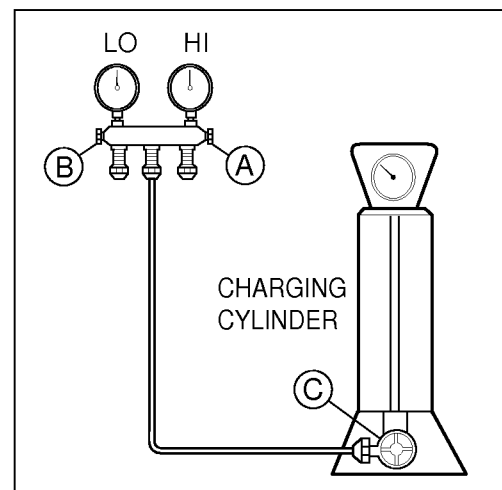

Figure 21B-Charging
- 2) Connect the charging cylinder as shown in figure 21B.